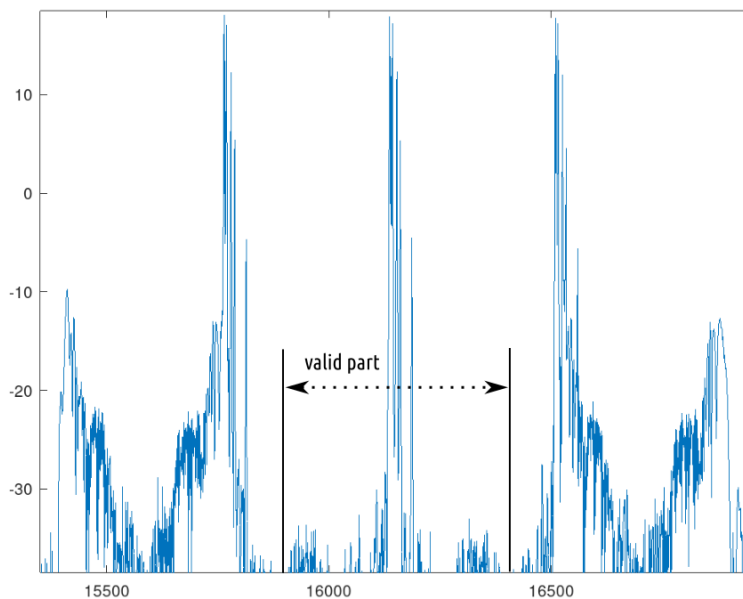

Figure 2.1: Valid part of impulse response is in the middle of each matched-filtered measurement burst.
- Look where the valid middle part of the first channel response is located. See figure 2.1 for example. You could choose for example +/- 50 samples around the first channel tap, or even smaller window if the channel response fits inside.